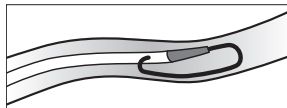

Figure 3
**⚠️ Precaution:** If resistance is encountered when attempting to remove guidewire after catheter placement, guidewire may be kinked around tip of catheter within vessel (refer to Figure 3).